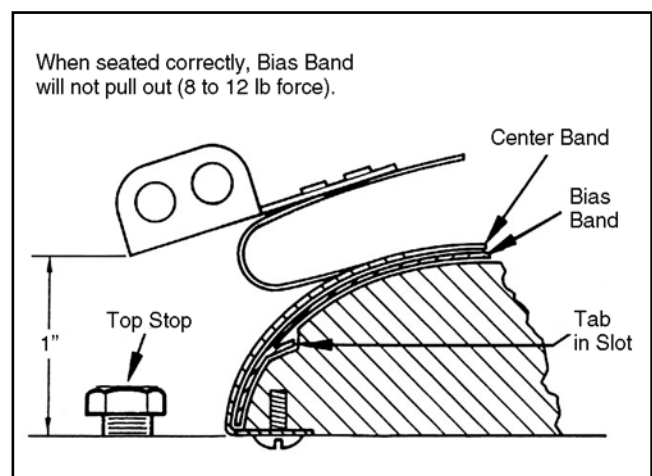

Figure 9
5. Tip the rocker spring as shown in Figure 5. The bias band may now be removed by working the band back and forth while pulling to displace holding tab in seal block (see Figure 9).
- Gently force the entire rocker spring forward until the cross-section of the rocker spring touches the center band. Insert the bias band under the center band and push it in until it comes in line with the edge of the seal block. (reference Figures 5 and 9). The protruding tab of the bias band is designed to fit into a slot in the seal block (reference Figure 9). Make sure the bias band is inserted correctly by checking that the edges are not visible under the center band and gaps are not visible under the center band when the rocker spring assembly is in the position shown in Figure 9. When seated correctly (as shown in Figure 9), the bias band will not come out when being pulled by hand with an approximate force of 8 to 12 lb.